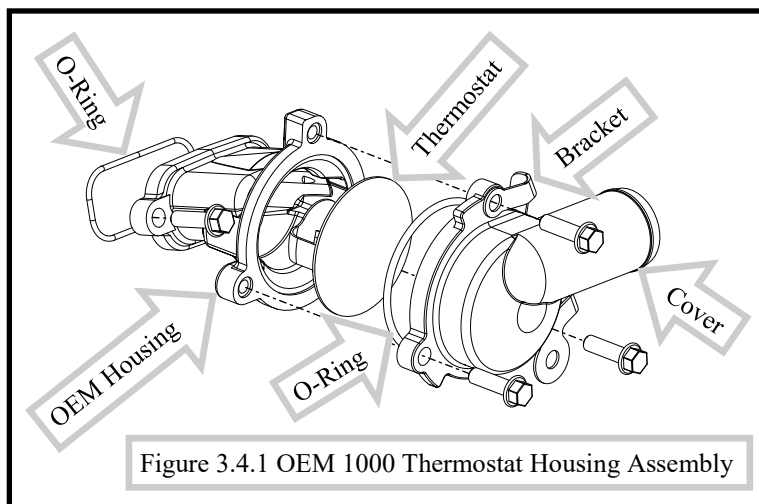

Figure 3.4.1 OEM 1000 Thermostat Housing Assembly
3.4 1000cc Gasoline Engine: For the supply line into the heater, the OEM thermostat housing is replaced with a new one. Disconnect the radiator hose, remove the thermostat cover, metal connector bracket, thermostat (note the orientation and direction), and thermostat housing. (Figure 3.4.1)